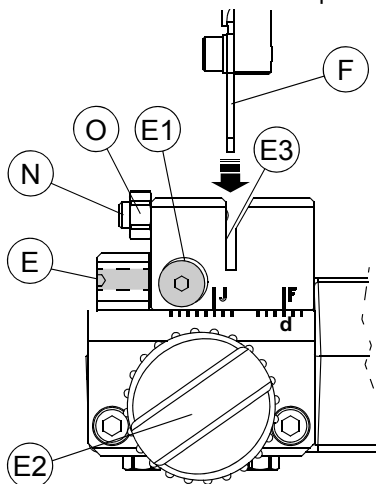

Fig. 12
- 1) set up the coded spacing device by means of the knob (E2) so that the indicator "F" is aligned with position "d" (fig.12).
- 3) take the carriage towards the cutting tool and place the tracer point (F) all the way into the locating groove (E3) (fig.12).
- 4) check that the cutting tool enters clearly into the groove (A3) in the gauging calliper. If adjustment is necessary, loosen screw (E1) and adjust axial gauging by means of the grub screw (E).
- 3) take the carriage towards the cutting tool and place the tracer point (F) all the way into the locating groove (E3) (fig.12, page 11).
If an optional carriage is used, check that the tracer point enters freely into the locating groove (E3) (fig.12, page 11) and that there is not excessive play on it. If necessary, adjust play between the locating groove and tracer point by loosening the nut (O) and turning the grub screw (N).